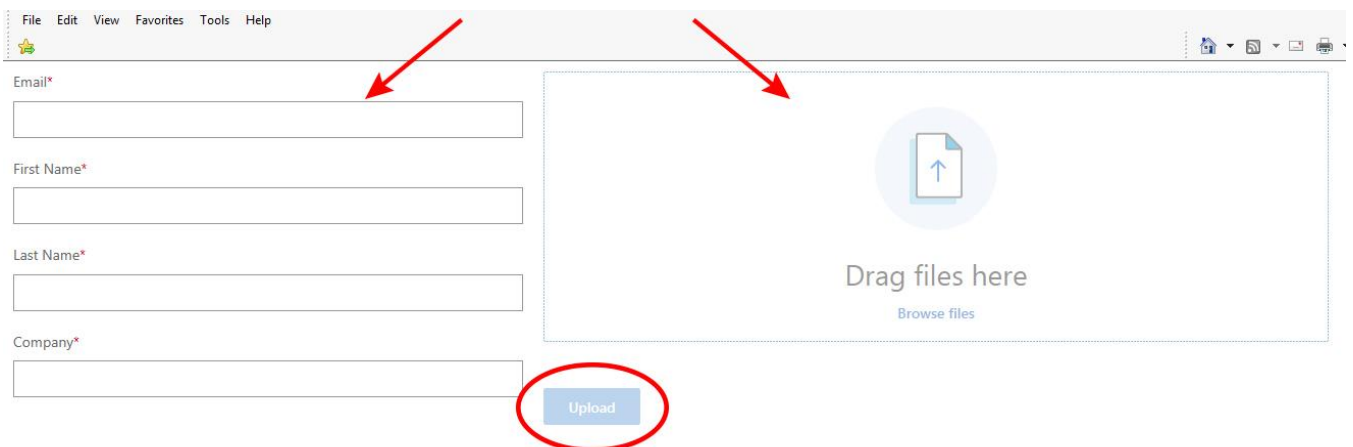

Figure 2
3. Enter your email, name, and company in the designated areas on the left-hand side of the page (Figure 2).